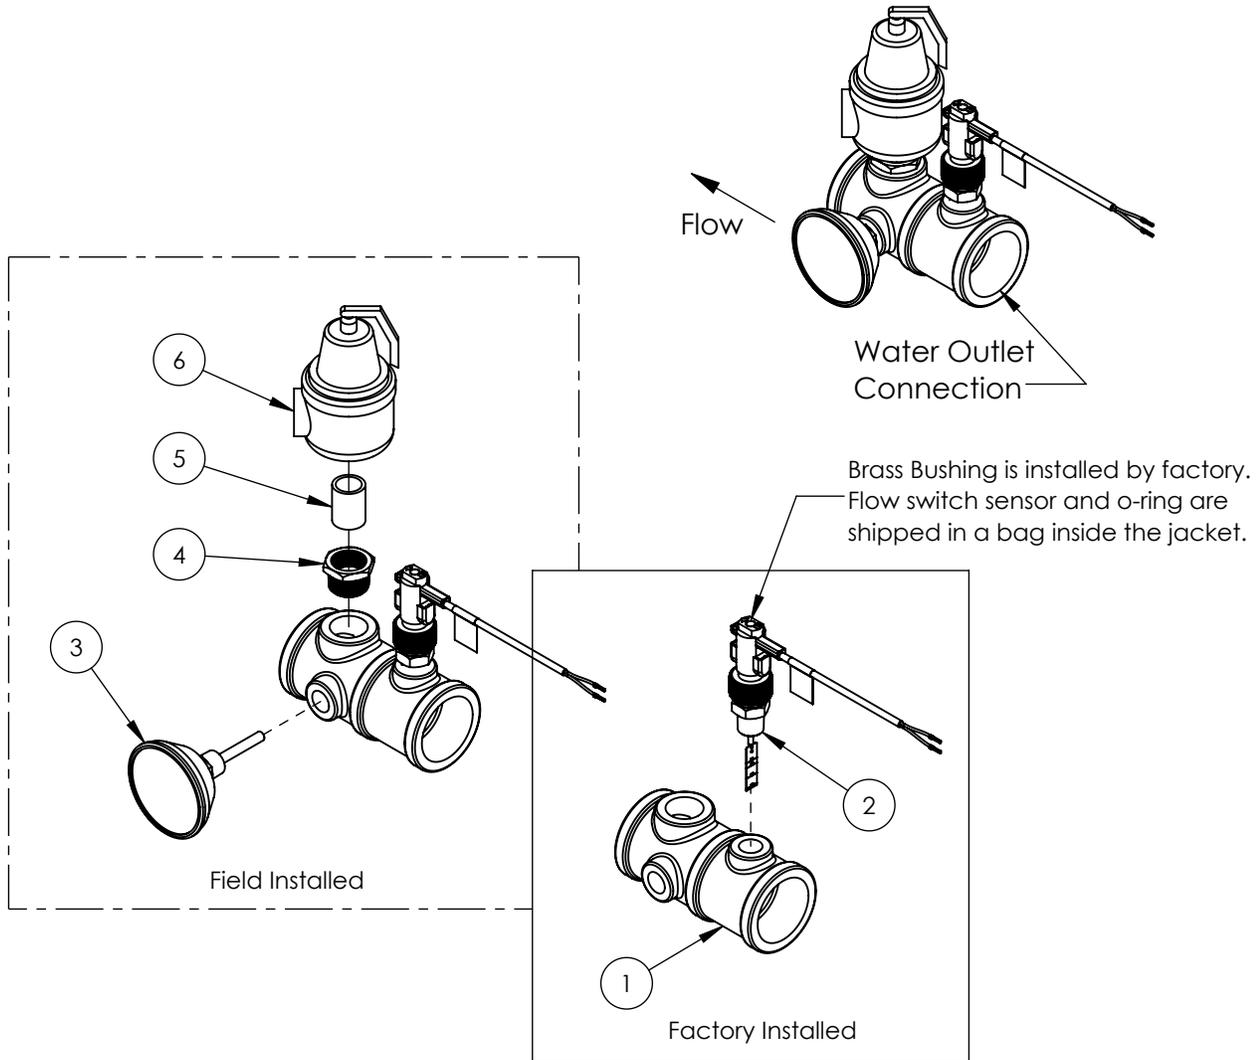

Figure 18: Relief Valve Package Assembly
1. The relief valve, T&P gauge, and required fittings ship loose with the appliance. These parts must be installed to the outlet as shown in Figure 18.